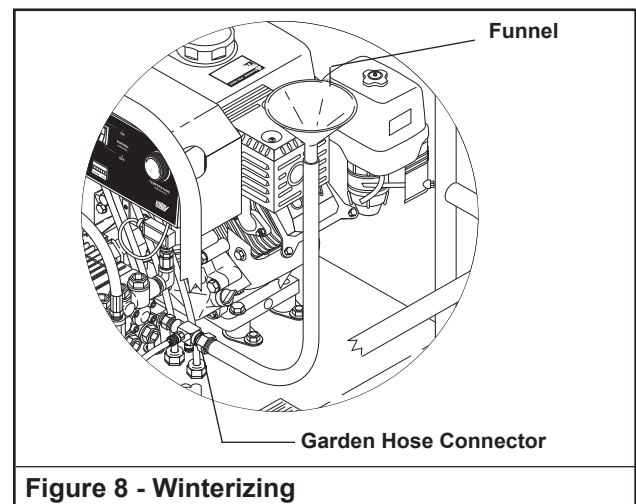

Figure 8 - Winterizing
8. Attach a short length of hose (approximately 3 feet long) to the garden hose connector located on the pump. Install a funnel in the other end of the hose as shown in **Figure 8**.